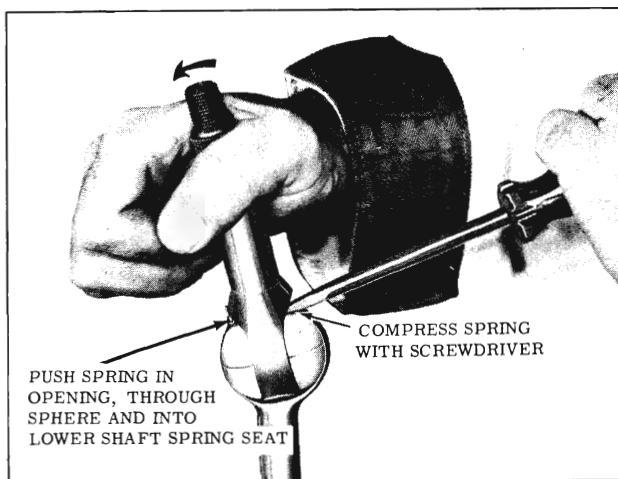

Fig. 4-101 Installing Spherical Joint Spring
3. Install the preload spring through the centering sphere and into the spring seat in the lower shaft. Compress the spring into the opening between the sphere and the upper shaft, then move upper shaft to hold spring. With a screwdriver, inserted through the coils from the opposite side of the shaft, compress the spring so the upper end will snap into the spring seat in the upper shaft. (Fig. 4-101)